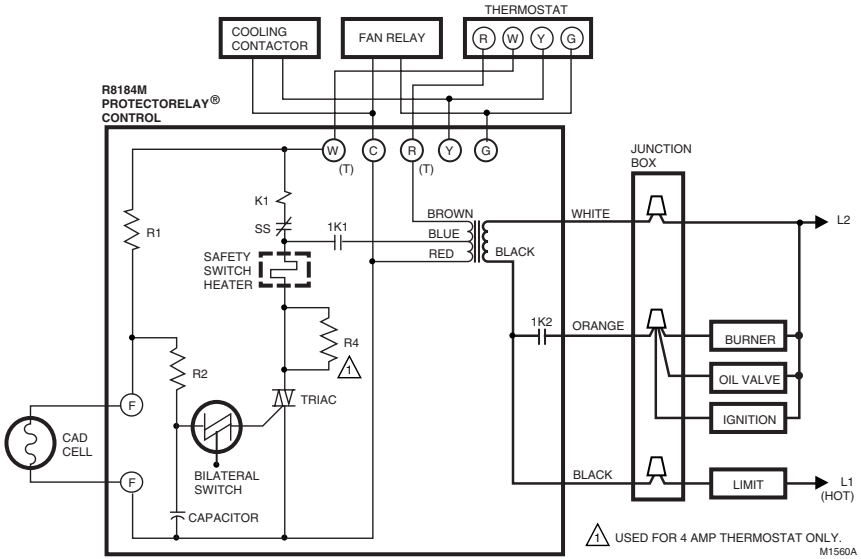

Fig. 6. Typical hookup for R8184M.
- R8184M—connect the cad cell leads to the F-F terminals and connect remaining low voltage wiring as shown in Fig. 6.